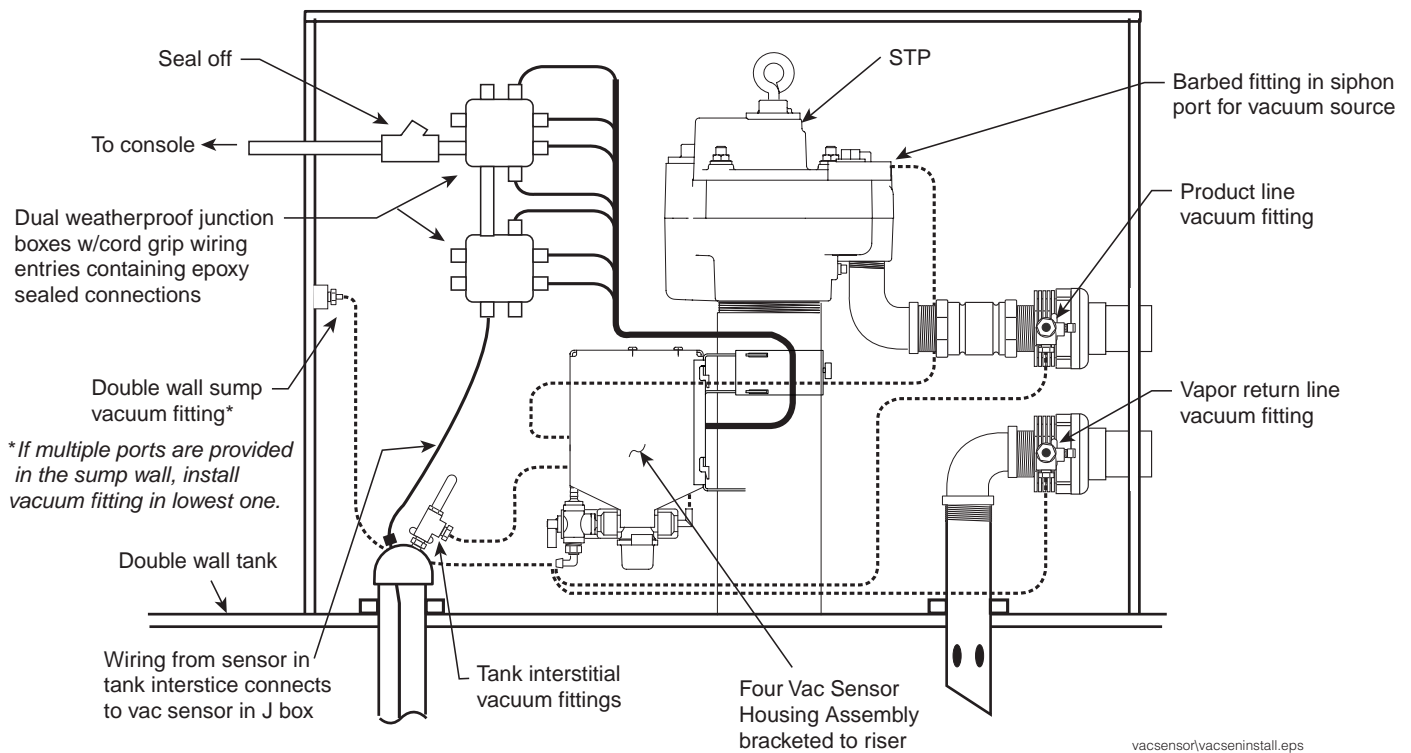
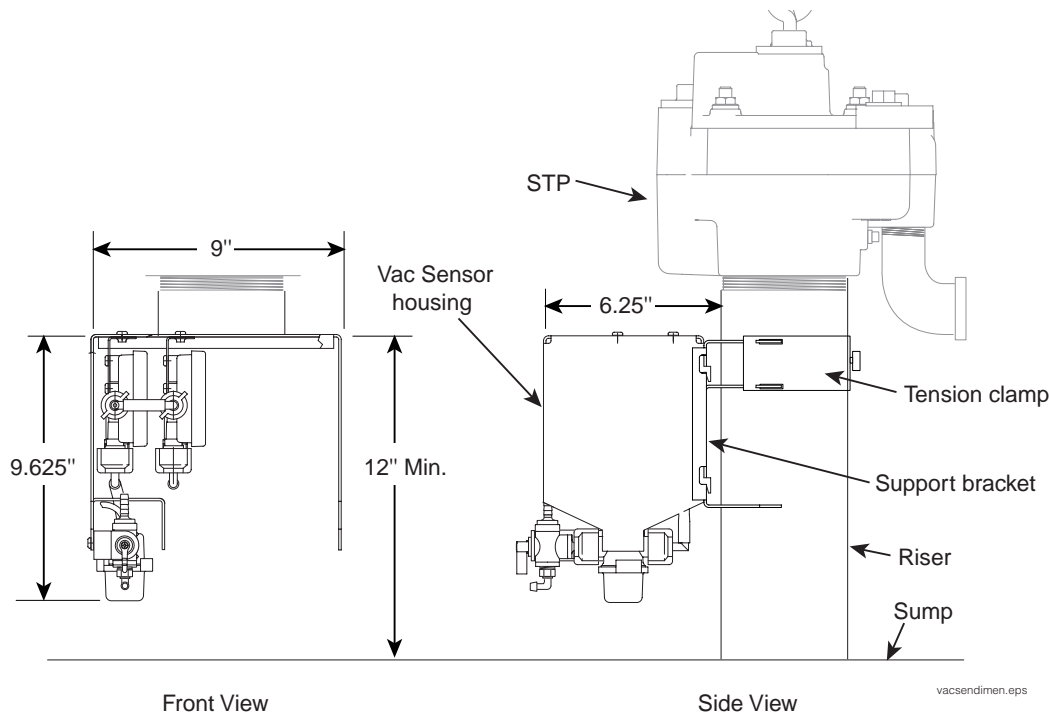

Figure 1. Installation example of Four Vac Sensor w/tank interstitial monitoring
Figure 2. Vac Sensor Assembly Dimensions
A simplified Veeder-Root vacuum sensor installation in an STP sump is shown in Figure 1. Vac Sensor (VS) and Vac Float (VF) modules are assembled in a housing which is shown in Figure 2. A separate mounting bracket (see Figure 2) is easily attached to the STP riser to support the Vac Sensor housing. Approximately 12 inches of clearance is required below the pump manifold for the Vac Sensor components. Final vacuum connections are made once the housing and bracket are in place. A 1/4" NPT port into the interstitial space of the double-wall vapor return line, double-wall product line, and/or double-wall sump must be accessible in the sump. For installations requiring tank interstice monitoring, a riser must be in the same sump for the tank interstitial sensor. Field wiring connections of the Vac Sensor components are sealed in a customer supplied sump junction box (JB).